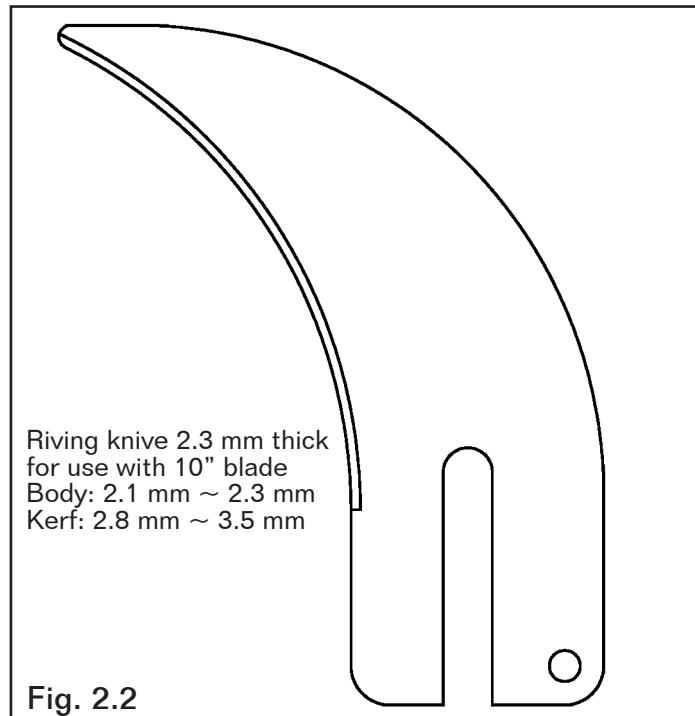
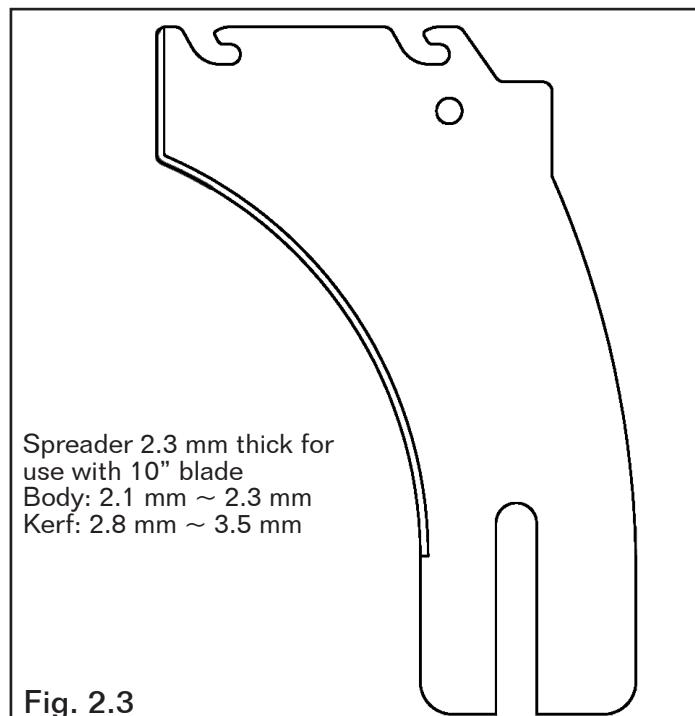

Fig. 2.2
Fig. 2.3
2. Please use the standard blade according to the specification mark on the blade as Fig.2-2 & Fig.2-3: